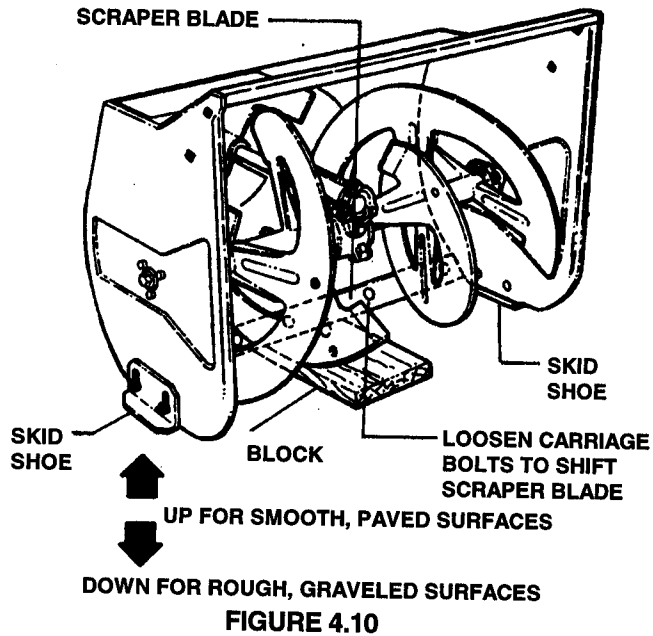

FIGURE 4.10
2. Loosen bolts on both skid shoes. Move shoes down to raise auger/impeller housing or move skid shoes up to lower auger/impeller housing. See Figure 4.10.